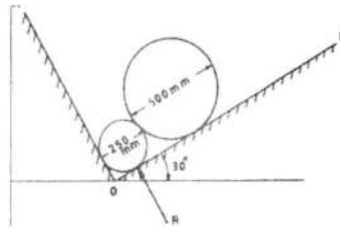

Fig.1
1. (a) Two steel cylinders are supported in a right angle wedge support as shown in Fig. 1. The side OL makes an angle of 30° with the horizontal. The diameters of the cylinders are 250 mm and 500mm; their weights being 100 and 400N respectively. Determine the reaction R between the smaller cylinder and the side OL.